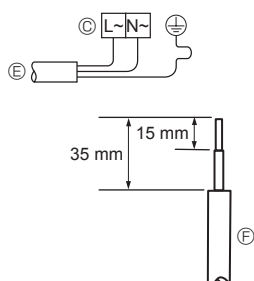
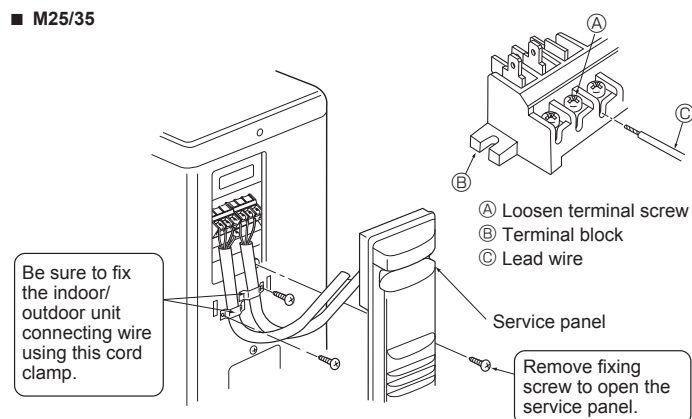
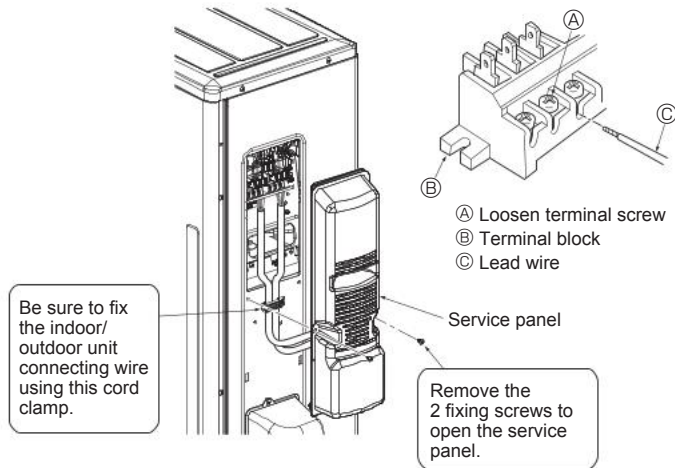

Fig. 6-2
Fig. 6-3
Fig. 6-5
6.1. Outdoor unit (Fig. 6-1, Fig. 6-2, Fig. 6-3, Fig. 6-4, Fig. 6-5)
- ① Remove the service panel.
- ② Wire the cables referring to the Fig. 6-1, Fig. 6-2, Fig. 6-3, Fig. 6-4 and the Fig. 6-5.
- Perform wiring as shown in the diagram to the lower left. (Procure the cable locally) (Fig. 6-2)